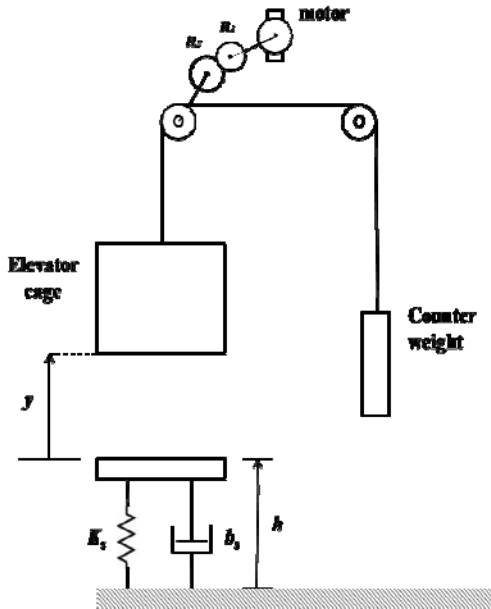

Fig. 2-3
**(5) (10 points) Design of a shock absorber system for emergency accident: Figure 2-3. At the time  $t = -T_0$ , the position of the cage is  $y_0$ , i.e.,  $y(-T_0) = y_0$ , the velocity is zero, i.e.,  $\dot{y}(-T_0) = 0$ , and the wire connecting the elevator cage and the counter weight is cut. At the time  $t = 0$ , the cage hits the shock absorber system which consists of a spring and a damper. The mass of the spring-damper shock absorber system is negligible.**